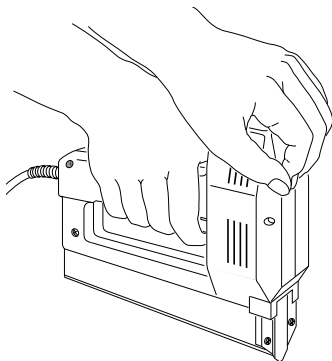

Figure 7
5. Place palm of free hand firmly on head of tool (see Figure 7).